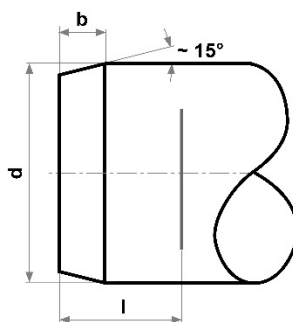

Fig. 1
- ➔ The end of the pipe is to be chamfered as shown in fig 1 and set out in Table 1.